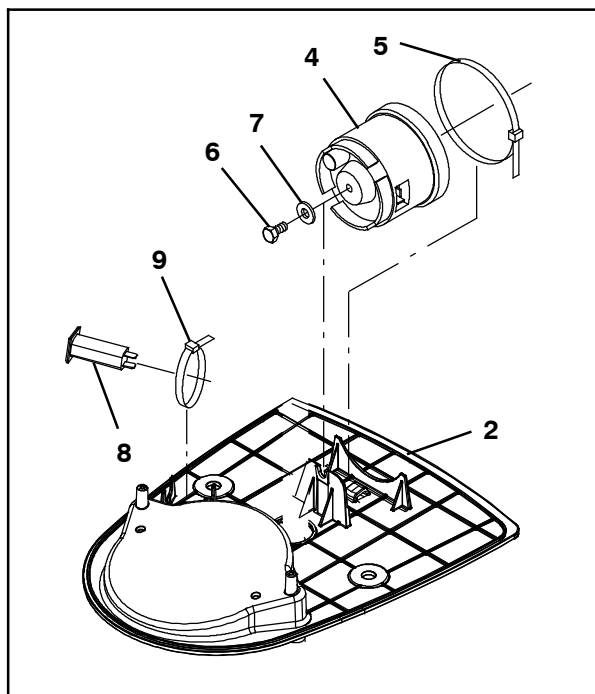
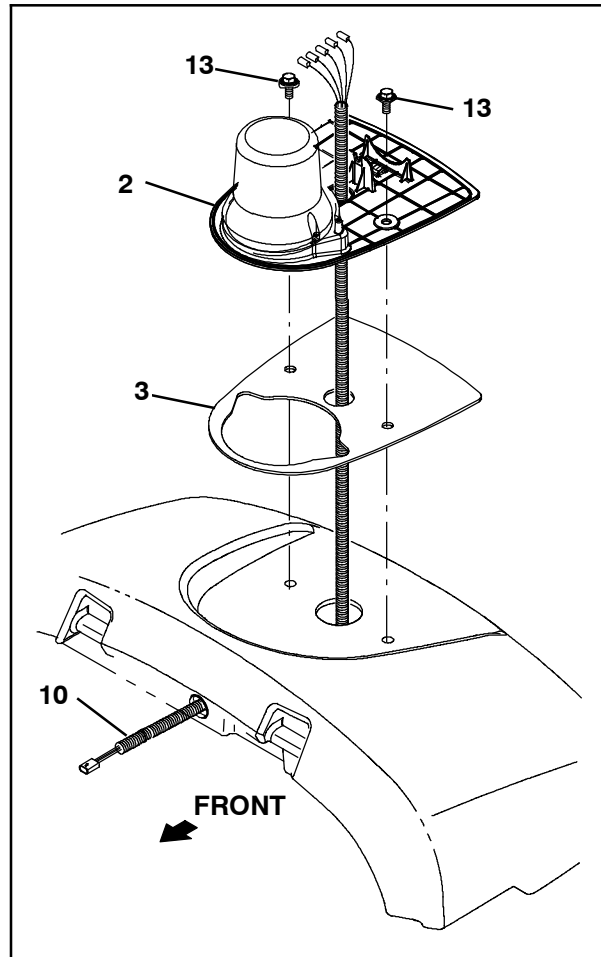
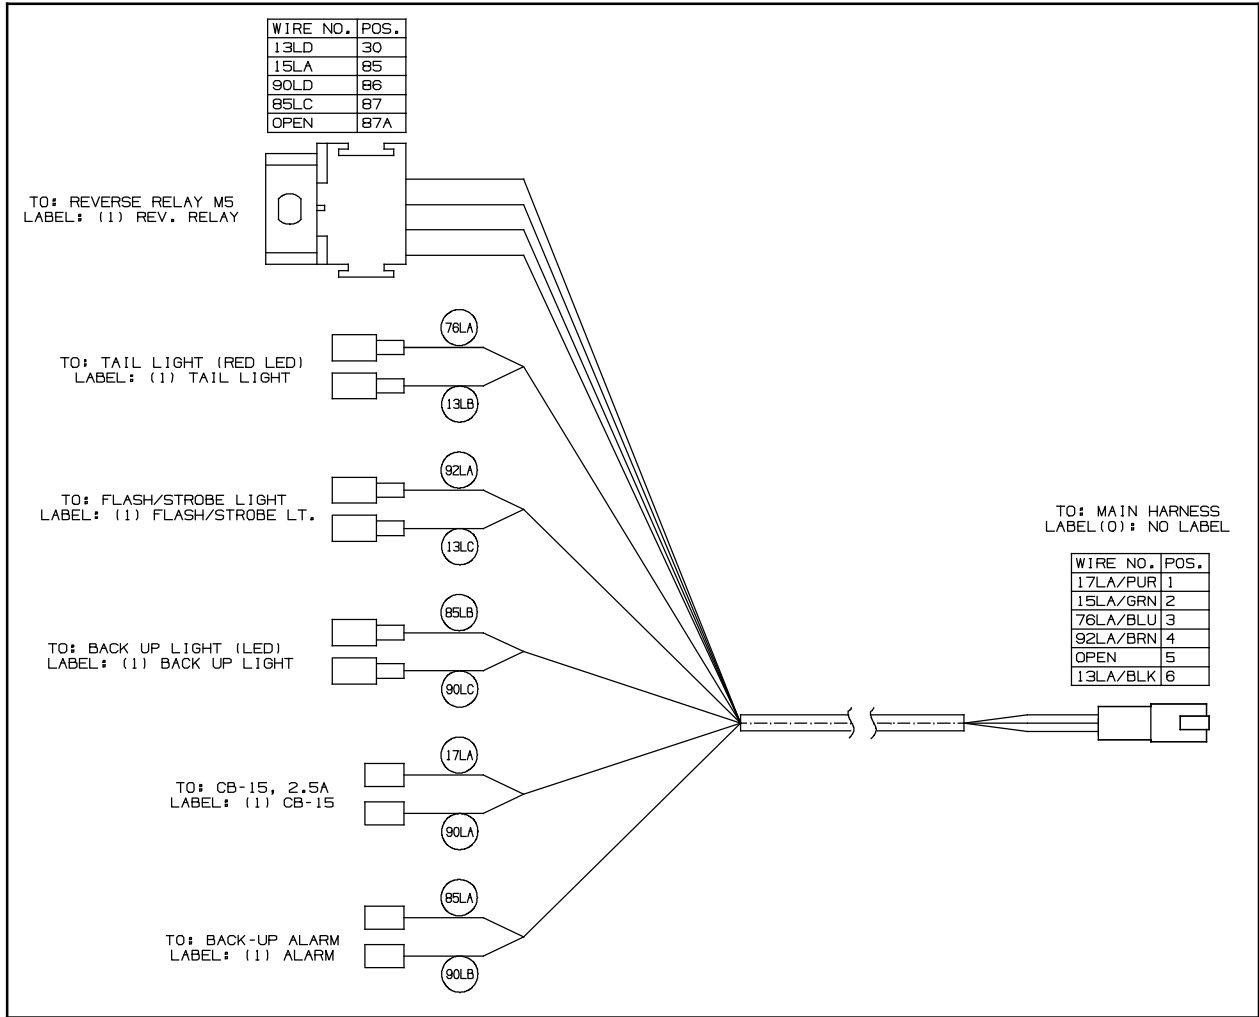
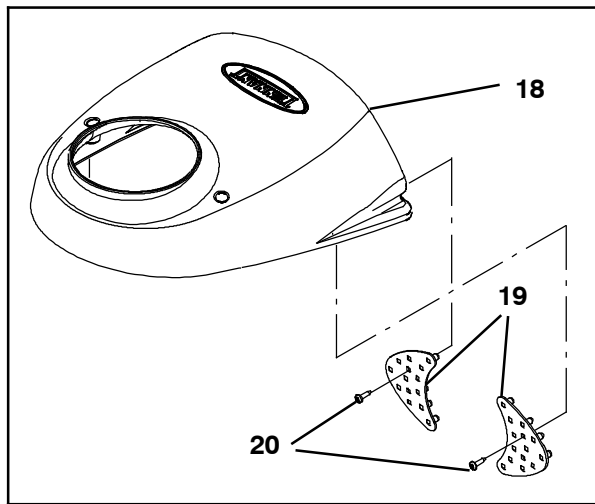

FIG. 4
FIG. 5
FIG. 6 - Alarm / Light Wire Harness
FIG. 14
- Use a cable tie (5), a hex screw (6), and a flat washer (7) to secure the backup alarm (4) to the light module base (2). (Fig. 4)
- Use a cable tie (9) to secure one 2.5 Amp circuit breaker (8) to the light module base (2). (Fig. 4)
- Route the end of the alarm / light wire harness (10) with the single connector down through the module base (2), module base gasket (3), and the 2" (50 mm) hole and 1.5 (38 mm) hole in the recovery tank cover. (Fig. 5)
- Use two M8 hex screws (13) to install the light module base (2) and module base gasket (3) onto the recovery tank cover. (Fig. 5)
10. Connect the alarm / light wire harness (10) to the light (1), backup alarm (4), and 2.5 Amp circuit breaker (8). (Fig. 4 / Fig. 5 / Fig. 6)
11. Plug the 36VDC relay (21) into the alarm / light wire harness (10). (Fig. 6 / Fig. 7)
- Use two pan screws (20) to install each LED light assembly (19) onto the light module cover (18). (Fig. 14)
- Connect the alarm / light wire harness (10) to both LED light assemblies (19). (Fig. 6 / Fig. 14)